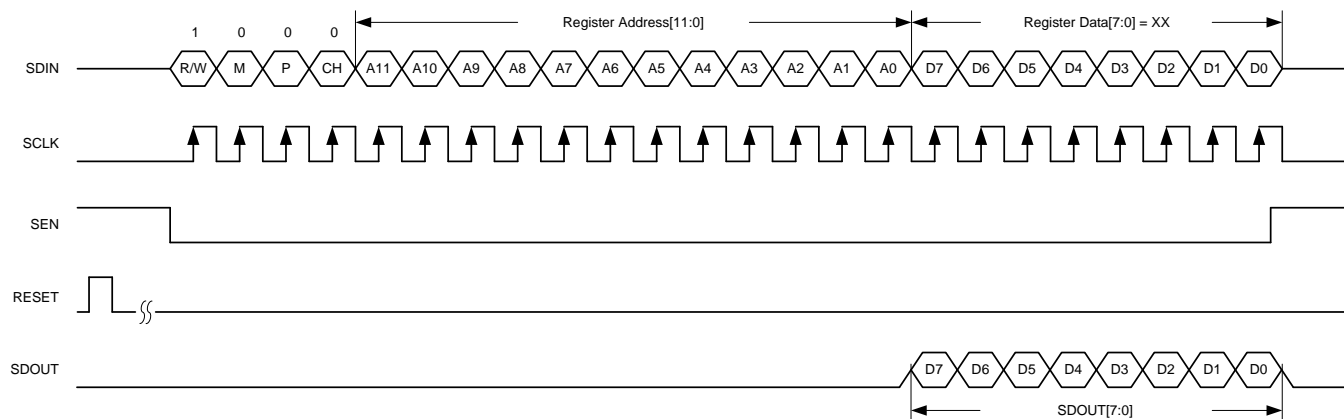

Figure 74. Serial Register Read Timing Diagram
4. Read back the register content on the SDOUT pin, as shown in Figure 74. When a page is selected, multiple read backs from the same page can be done.